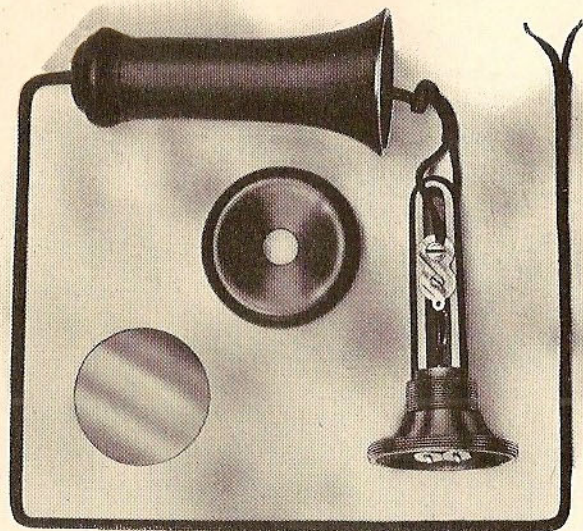

Fig. 2.
which passes through its center and is shown in the pole piece (A). The magnets, when assembled and in place, as shown in Fig. 2, are enclosed in a metal case (H),